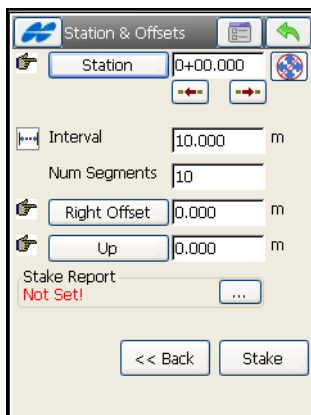

Figure 13-29. Stakeout
- **Next** – opens the *Station & Offsets* screen (Figure 13-29 on page 13-25) (see “Station & Offsets” on page 13-25).
The *Station & Offsets* screen (Figure 13-29) contains the settings for the stakeout stations with offsets from the line.